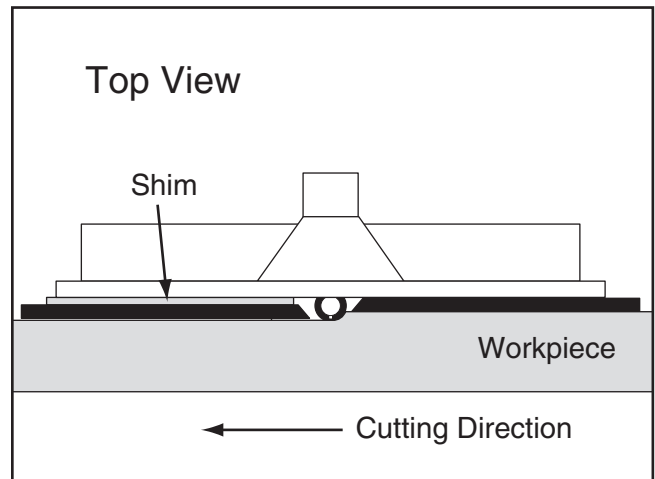

Figure 22. Edge jointing (guard removed for clarity).
7. Lock the fence assembly in place, tighten all knobs, connect the router to power, then perform the cut (see **Figure 22**).